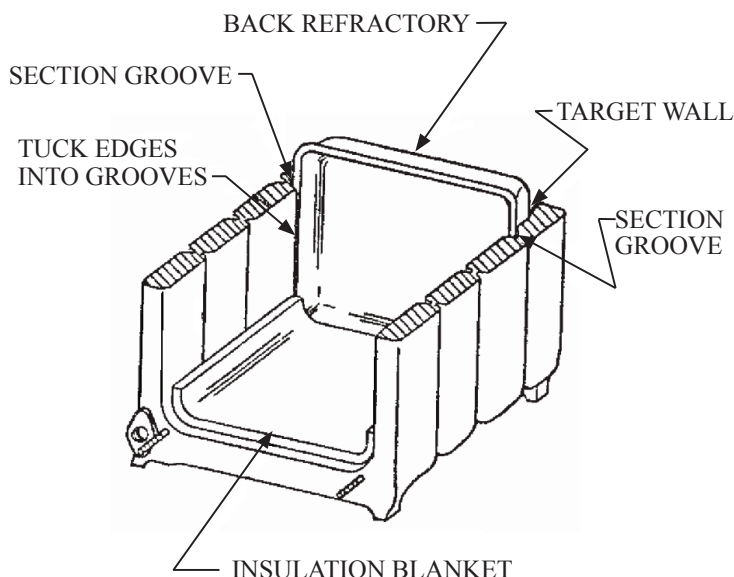

FIGURE 2.
- d. Re-form top edge of refractory (see Figure 2).